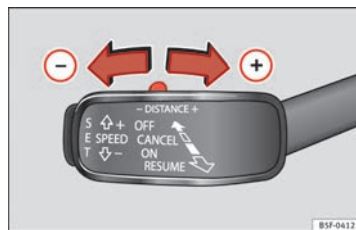

Fig. 138 Control lever for: setting the distance.
- To display the distance currently programmed, briefly press the rocking button ⇒ Fig. 138.